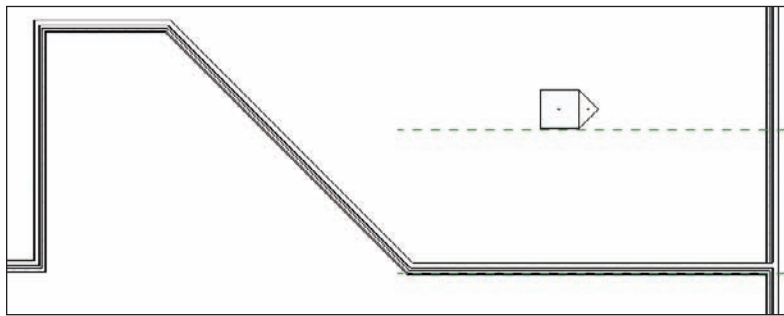

FIGURE 2.16 The walls are automatically joined when you “pull” the end of one into another.
4. Pick the left blue grip, and drag this wall's end to the left until you hit the bottom corner of the diagonal wall. The two walls will join together (see Figure 2.16).